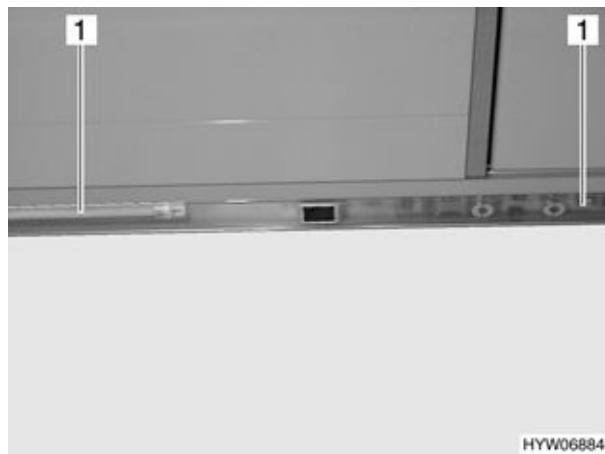

Fig. 185 Living area lamp/cooker lamp
- Pull at the glass of the lamp (Fig. 185,1). Always start pulling at the very left or right end.